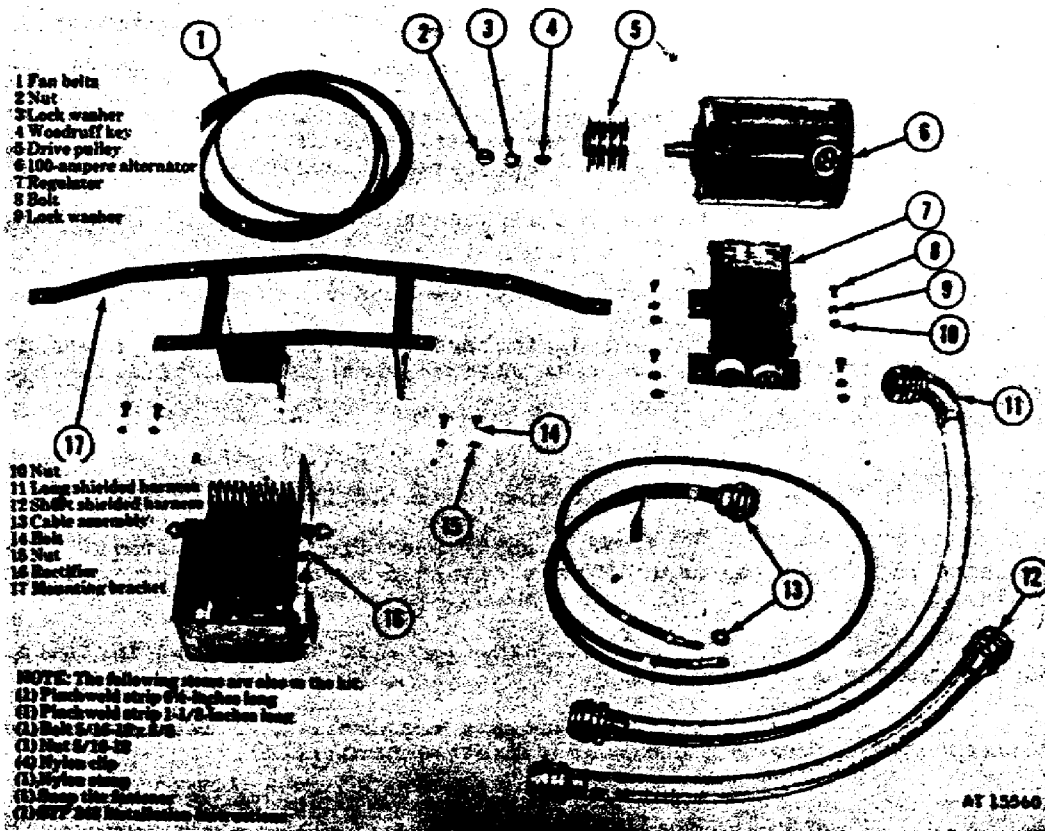

Figure 10. 100-ampere system.
(4) Test stand shutdown. To be certain not to damage the rectifier, the output voltage must not exceed 32 volts. Turning the field current control (41) fully CCW will decrease the output voltage and load current at the same time, thereby preventing damage to the rectifier. When shutting down the test stand, turning the field rheostat to reduce the field current to zero is the best practice.
- (a) Turn the drive speed control (42) fully clockwise (CW).
- (b) Stop the varidrive by actuating the stop button (35).
6. THE 100-AMPERE SYSTEM. Shown in figure 10 is the 100-ampere alternator kit which is used to convert lower amperage in vehicles to the 100-ampere capability.